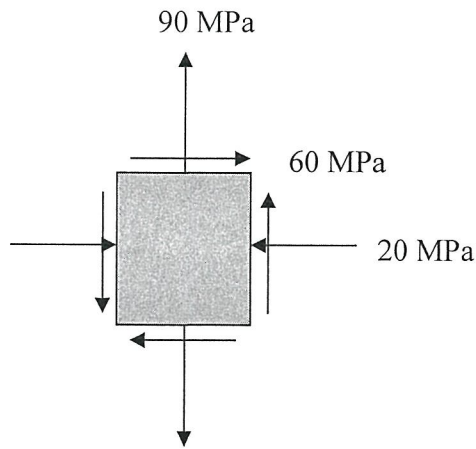

Figure Q6(c)
- Q6** (a) Name **two (2)** components of the general state of stress act at a point. (2 marks)
- (c) The state of plane stress at a point is shown on the element in **Figure Q6(c)**. Determine the maximum in-plane shear stress and the orientation of the element at this point. (10 marks)